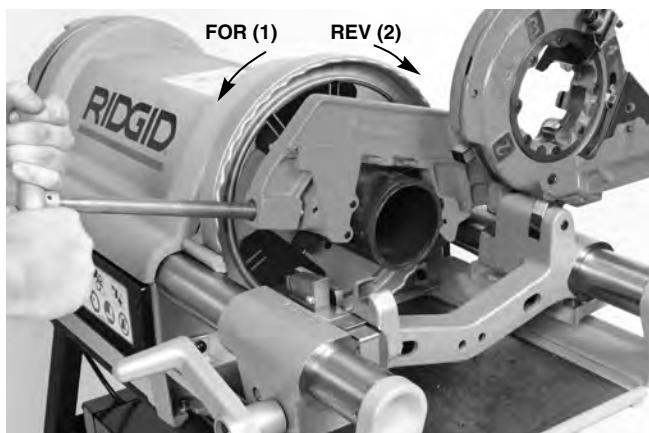

Figure 21 – Cutting Pipe with 764 Cutter/Machine Rotation
4. With both hands, grasp the pipe cutter feed handle (Figure 21).